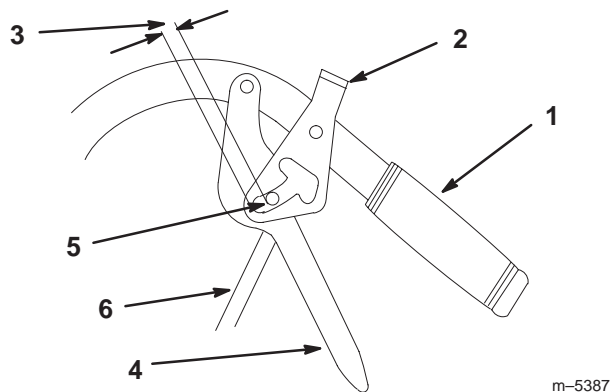

Figure 8
3. Adjust control rod length by threading rod in or out of rod fitting until there is a 3/16 to 1/4 in. (5 mm to 6 mm) clearance between the control rod and bottom of neutral/brake lock (Fig. 8).
6. Adjust control rod length by repeating steps 3 and 4 (Fig. 8).